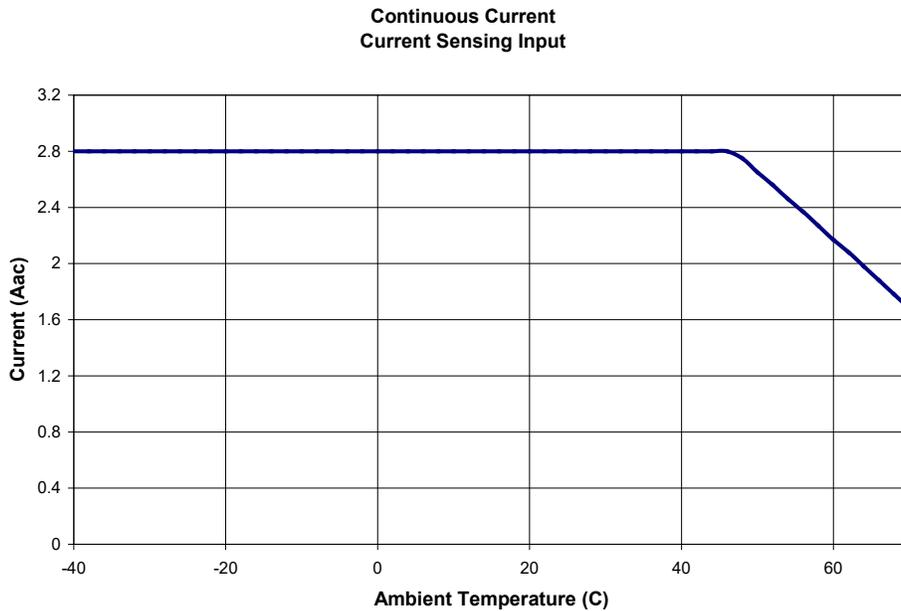

Figure 6-2. Current Sensing Input Derating Curve (BE1-50/51B-238)
* Continuous rating is 2.8 Aac for temperatures up to 45°C. See Figure 6-2 for derating curve.